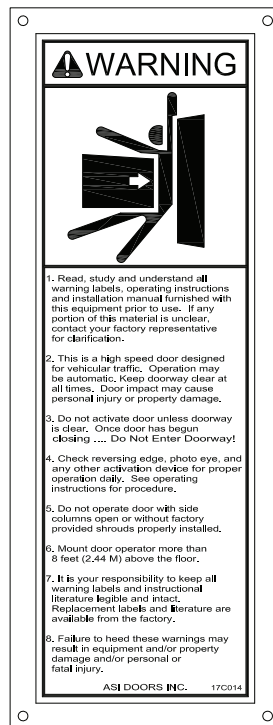

Figure 2: Warning Placard
- Be sure to read all warning labels before installation (Figure 2).